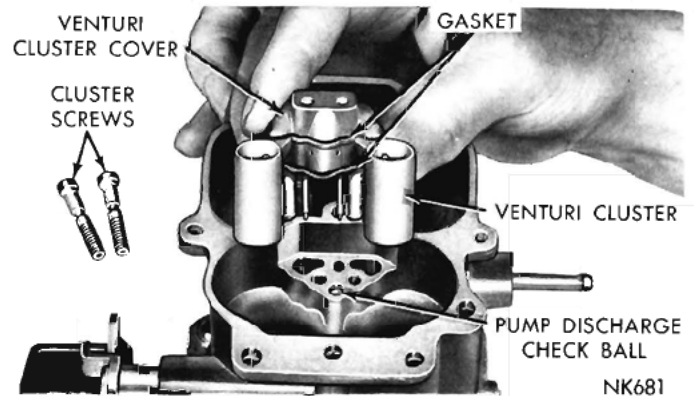

Fig. 5—Removing or Installing Venturi Cluster
(13) Remove the venturi cluster screws, then lift the venturi cluster and gaskets up and away from main body, as shown in (Fig. 5). Discard the gaskets.
(14) Invert the carburetor and drop out the accelerator pump discharge and intake check balls.
(15) Remove the idle mixture adjusting screws and springs from the throttle body.
(16) Remove the screws that attach the throttle body to the main body. Separate the bodies.
(17) Test the freeness of the choke mechanism in the air horn. The choke shaft must float free to operate correctly. If the choke shaft sticks in the bearings, or appears to be gummed from deposits in the air horn, a thorough cleaning will be required.
(5) Install new gaskets on venturi cluster, then install in position in the main body. Refer to (Fig. 5). Install the cluster screws and tighten securely.